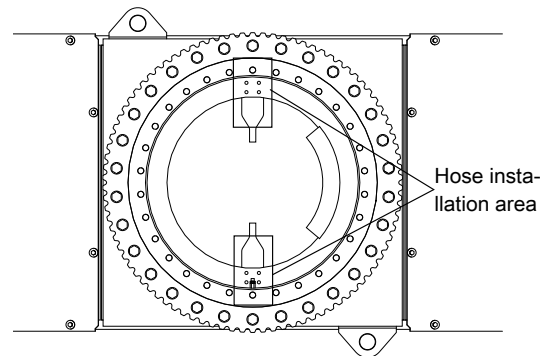

Figure 6-21
12. Refer to Fig 6-21 , page 6-14 , and tighten the retaining bolts in the sequence as indicated.